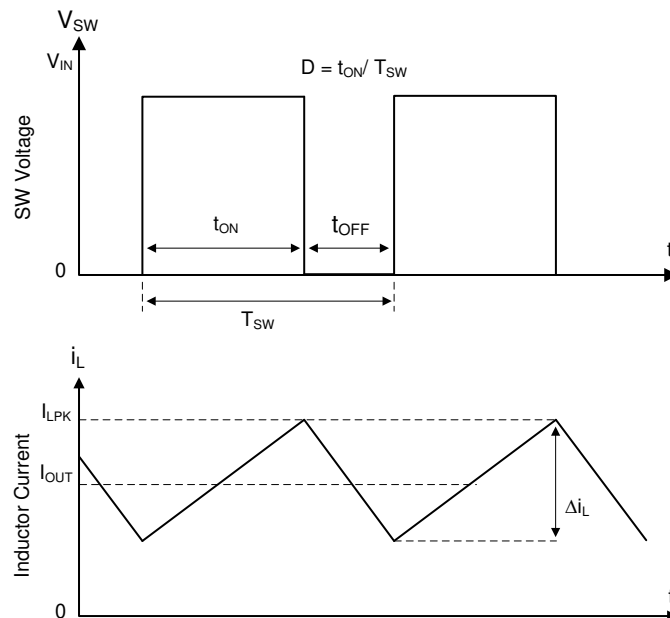

Figure 7-1. SW Node and Inductor Current Waveforms in Continuous Conduction Mode (CCM)
The following operation description of the TPS563300 refers to the functional block diagram and to the waveforms in Figure 7-1. The TPS563300 is a synchronous buck converter with integrated high-side (HS) and low-side (LS) MOSFETs (synchronous rectifier). The TPS563300 supplies a regulated output voltage by turning on the HS and LS NMOS switches with controlled duty cycle. During high-side switch on time, the SW pin voltage swings up to approximately V_{IN} , and the inductor current, i_L , increases with linear slope $(V_{IN} - V_{OUT}) / L$. When the HS switch is turned off by the control logic, the LS switch is turned on after an anti-shoot-through dead time. Inductor current discharges through the low-side switch with a slope of $-V_{OUT} / L$. The control parameter of a buck converter is defined as Duty Cycle $D = t_{ON} / t_{SW}$, where t_{ON} is the high-side switch on time and t_{SW} is the switching period. The converter control loop maintains a constant output voltage by adjusting the duty cycle D . In an ideal buck converter where losses are ignored, D is proportional to the output voltage and inversely proportional to the input voltage: $D = V_{OUT} / V_{IN}$.